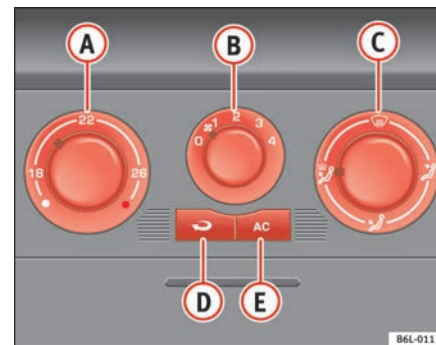

Fig. 90 On the instrument panel: air conditioning controls
- Using the controls ⇒ fig. 90 **A** and **C** and with the switch **B** you can set the temperature, air distribution and the blower speed.